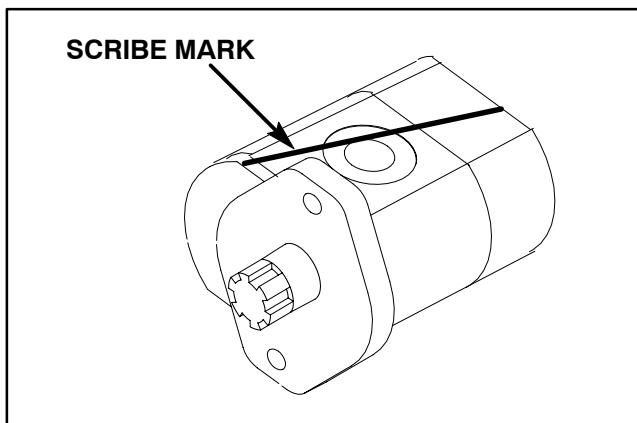

Figure 79
2. Use a marker or scribe to make a **diagonal** mark across the front flange, housing, and rear cover for reassembly purposes (Fig. 79).